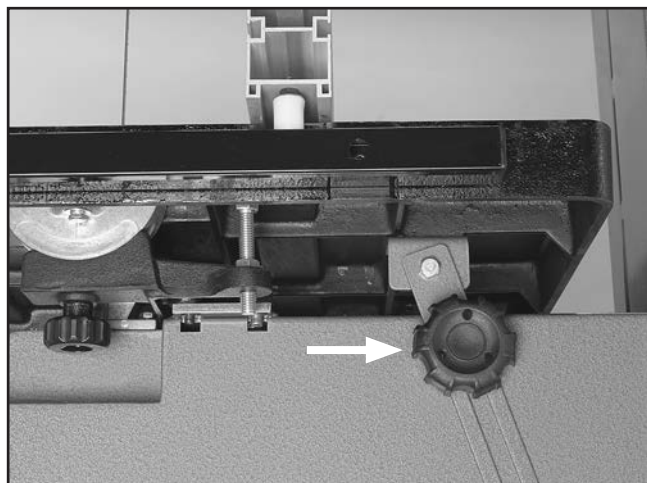

Figure 13. Knob securing table tilt bracket.
18. Use the tilt bracket knob to secure the table tilt bracket to the bandsaw body, as shown in **Figure 13**. Tighten the hex nut on the tilt bracket knob against the tilt bracket to secure it in place.